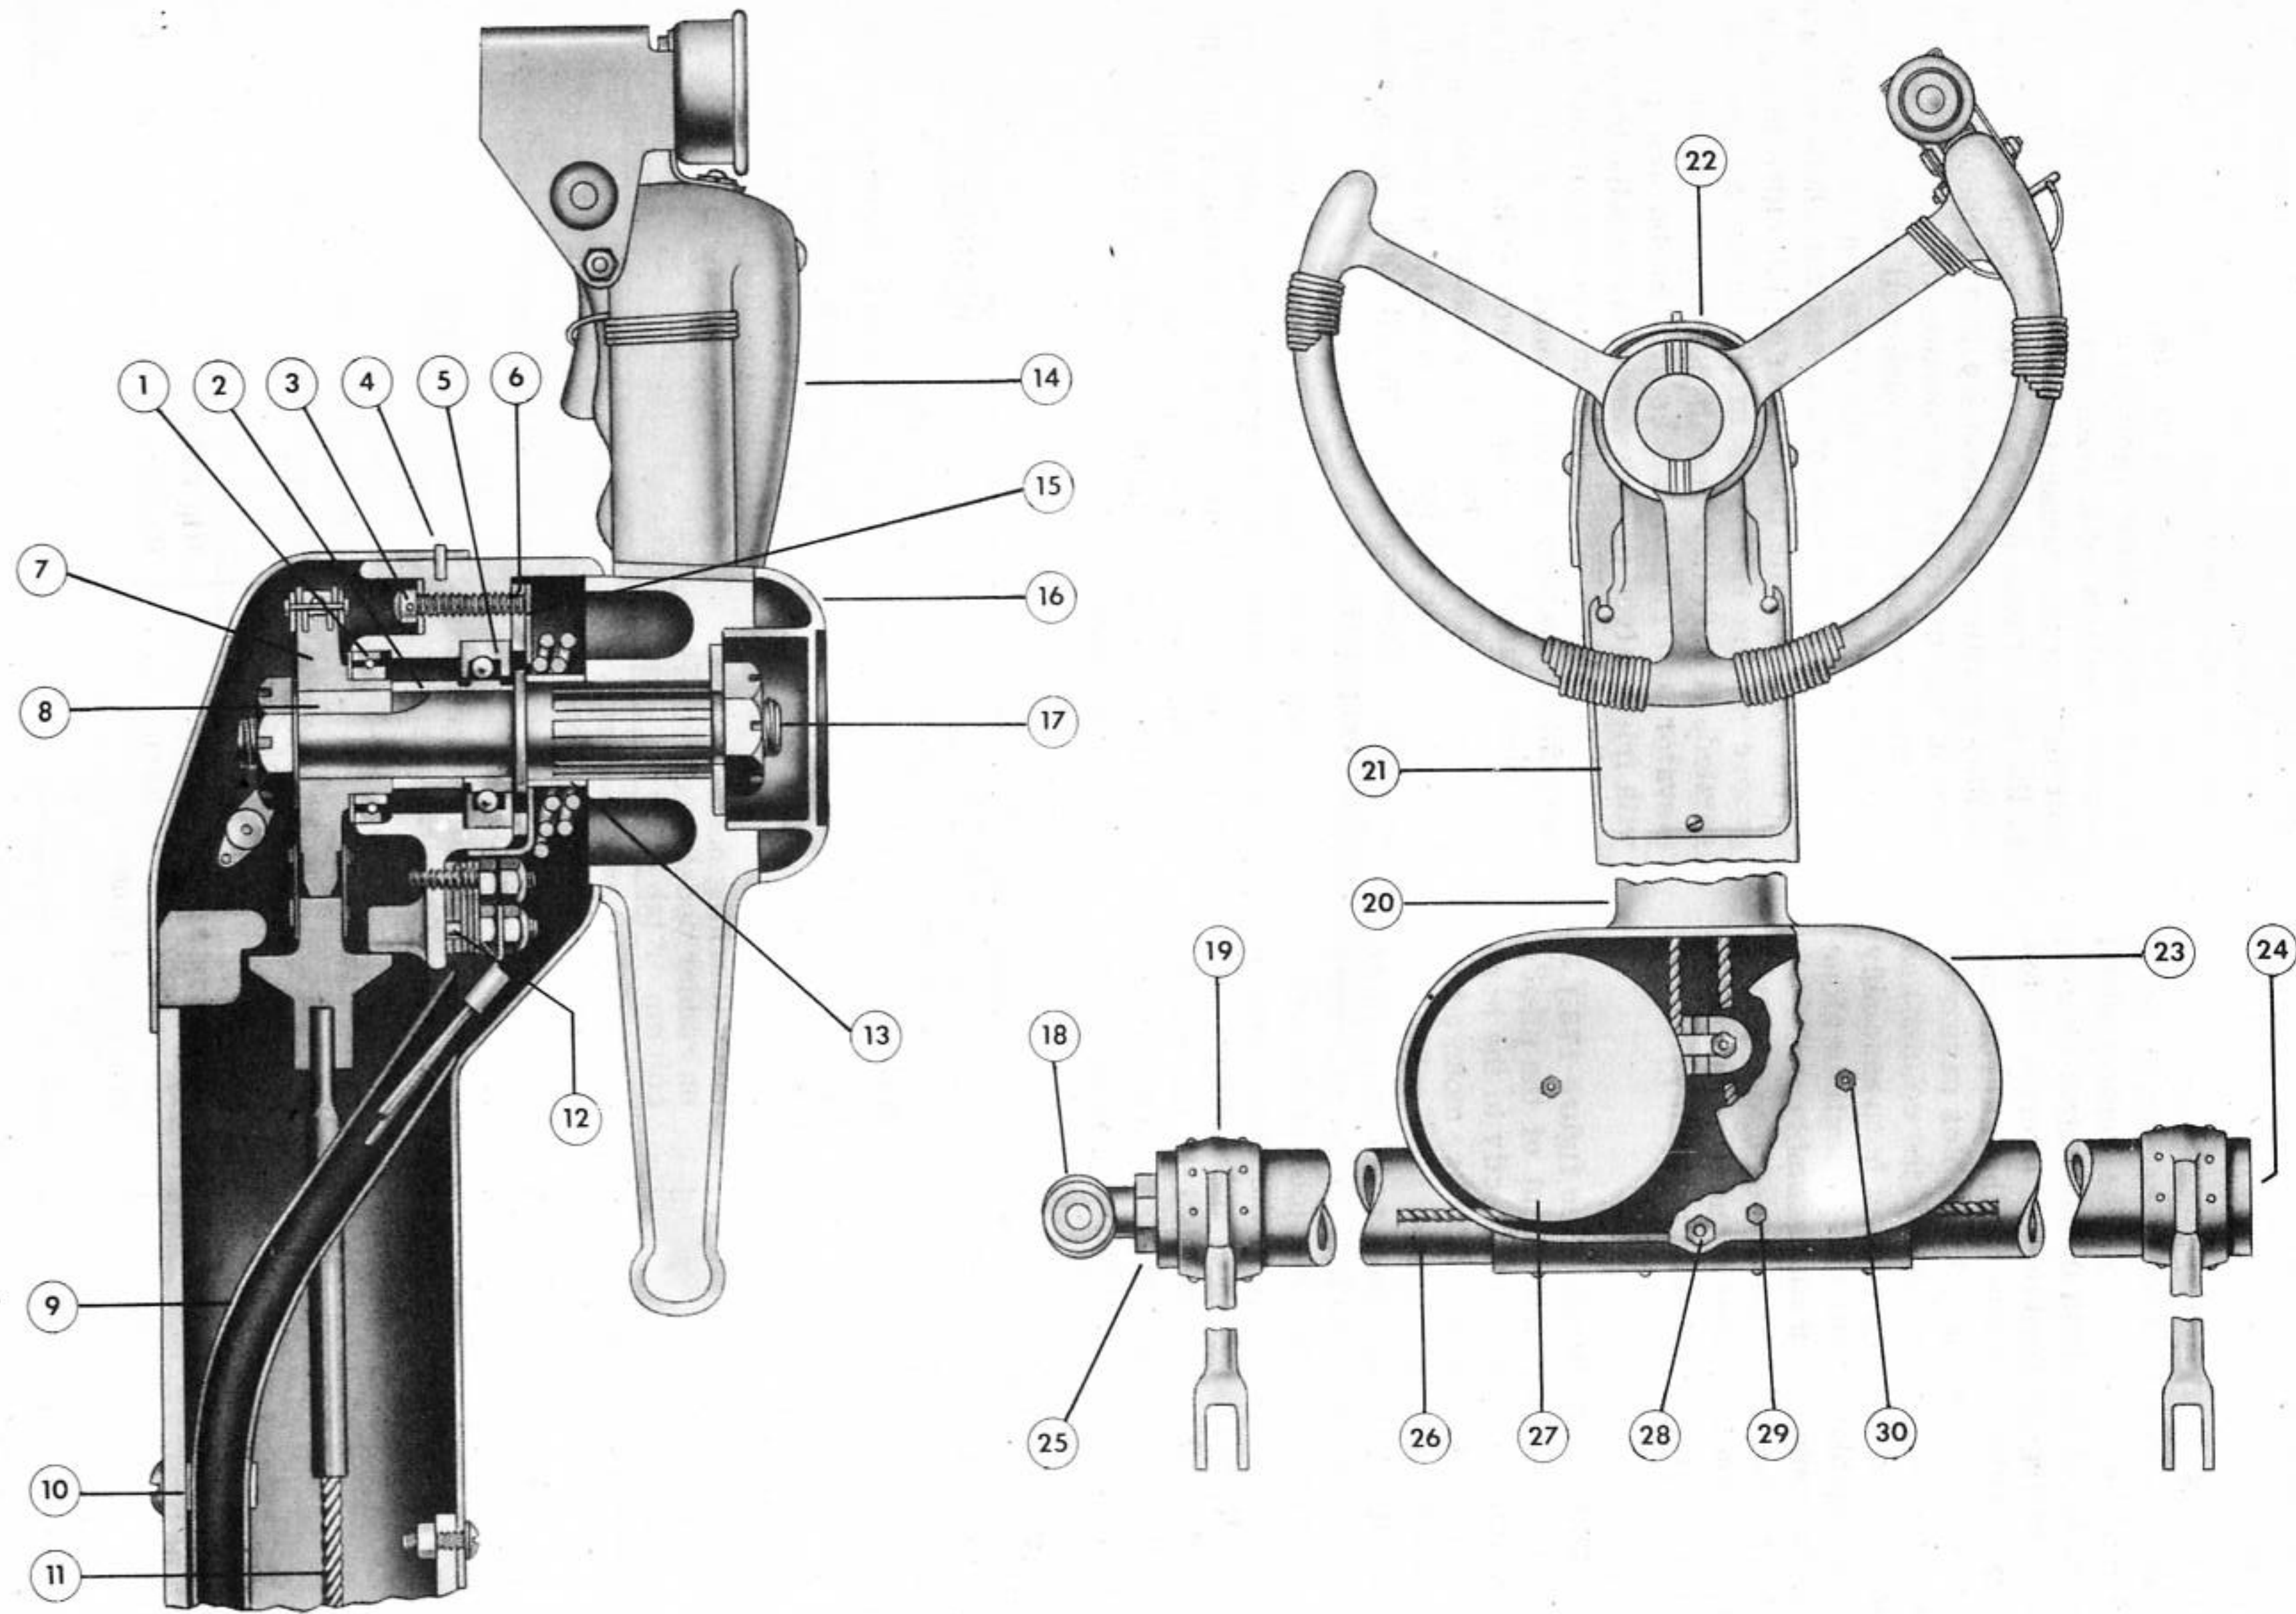

Figure 171 - CONTROL COLUMN
(3) CONTROL COLUMN AND WHEEL. (See figure 171.) - The control column in the pilot's cockpit and the control wheel at the top of the column provide for longitudinal and lateral control of the airplane. Forward and aft movement of the column lowers and raises the nose. Conventional movement of the wheel provides lateral balance.
LEGEND FOR FIGURE 171